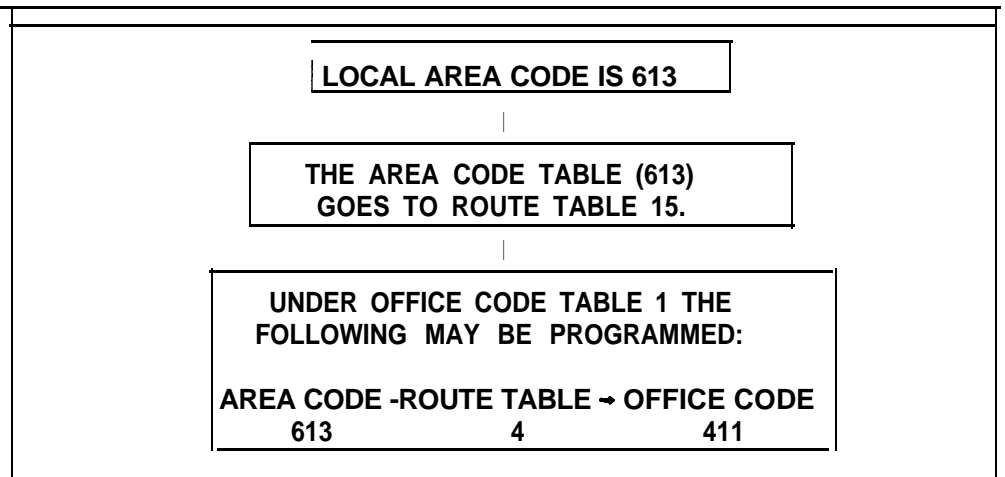
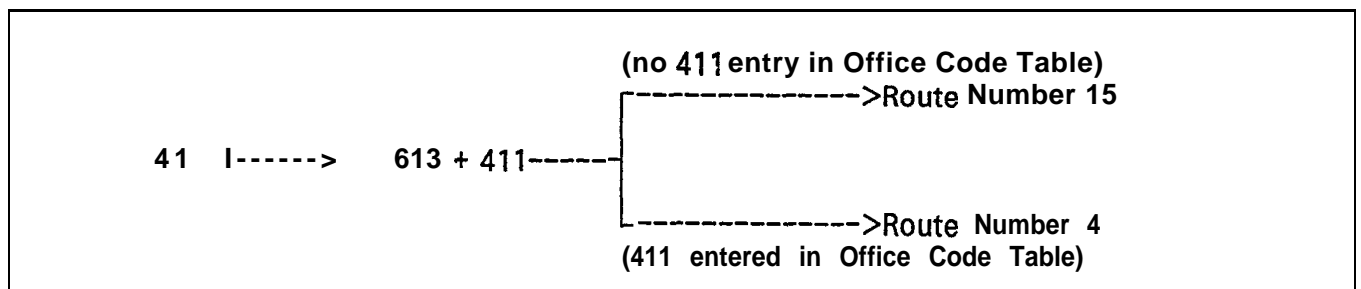

Figure 5-2 Service Codes
Figure 5-3 411 Entry
5.11 The Route Table used for the service call is chosen in exactly the same way as with any other local call. This is done by using 411 as an office code in programming an Office Code Table. Hence, if the local area code is 613, programming 411 as an office code in a table tied to 613 causes the system to use the associated route table specified (Figure 5-2). Upon a user dialing 411, the system finds that 411 is a service code and uses 613 as the area code to search for a Route Table to use (Figure 5-3).